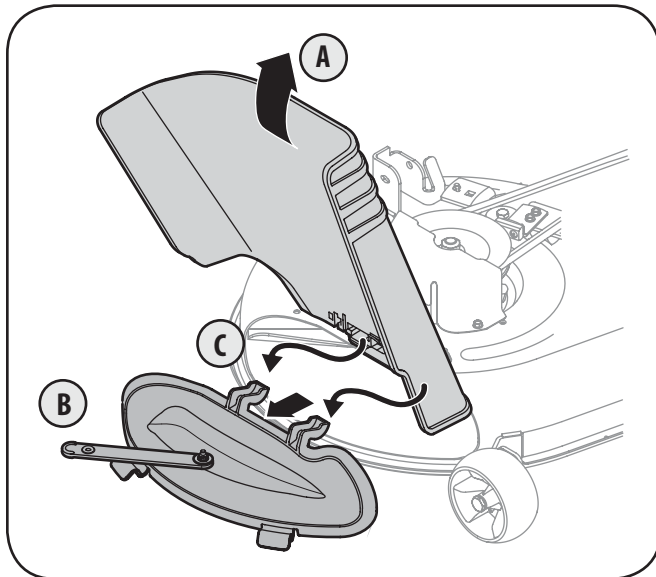

Figure 5-2
To operate the cutting deck without mulching, simply remove the mulch plug by raising the discharge chute (A), unhooking the chute strap from the pin on the cutting deck (B) and removing the mulch plug from under the discharge chute hinge (C). This will allow the clippings to discharge out the side. See Fig. 5-2.